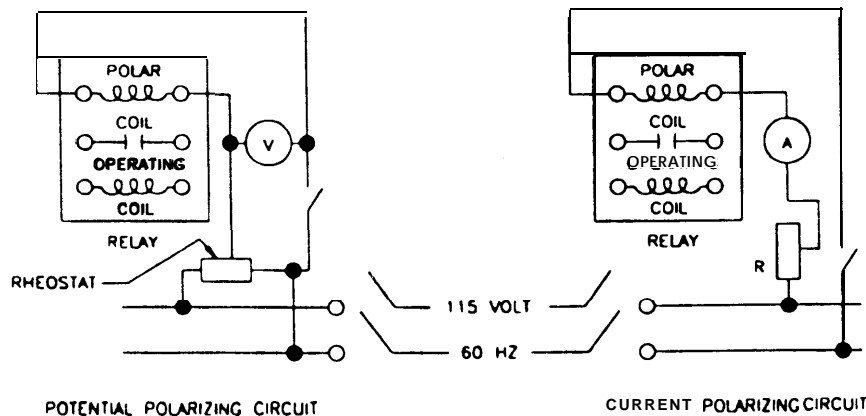

Figure 11-2. Typical test connections for directional overcurrent relays
(2) *Directional overcurrent relay.* Check the overcurrent element in the same manner as for a nondirectional overcurrent relay. Before testing the overcurrent element, verify the operation of the directional element by simulated fault currents and voltages. Check the minimum operating current of the overcurrent element at normal voltage, and check the contact gap spacing of the directional element. For typical test connections, see figure 11-2.